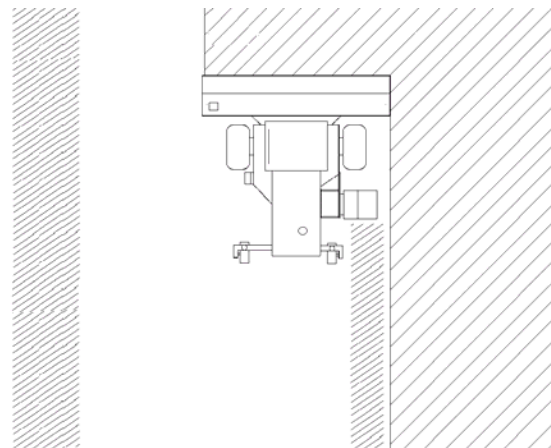

Figure 4. Double Windrowing, First Pass
- a/ In the first pass, set the deflector down (heavy conditions) or slow the belt speed (light conditions) to prevent the harvested crop from contacting standing crop (see Figure 4).